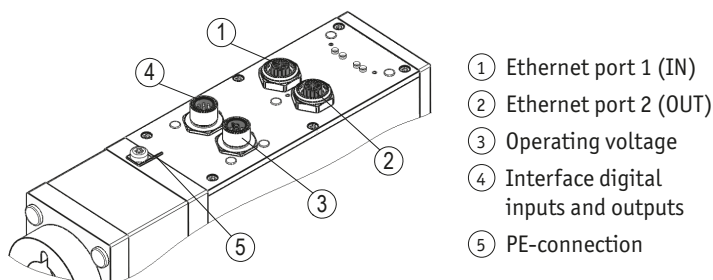
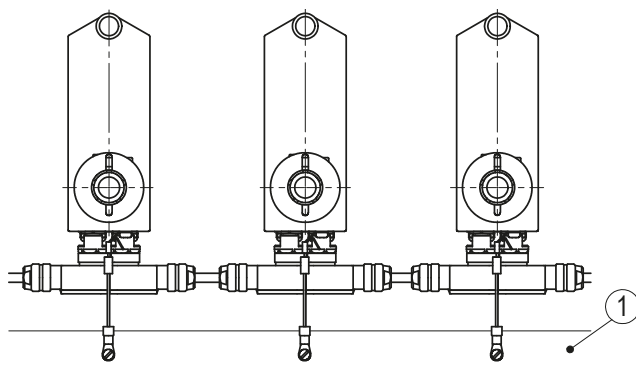

Fig. 5: Connection
Fig. 9: Ground bar
- ① Port 1 (IN): socket 4 pole M12 D coded (see Fig. 5).
- ② Port 2 (OUT): socket 4 pole M12 D coded (see Fig. 5).
- ③ plug pin 4 pole M12 T coded (see Fig. 5).
- ④ plug pin 8 pole M12 A coded (see Fig. 5).
For protection against interference, the screens of the signal lines and the power line must be connected on both sides. Potential differences cause inadmissible currents on the screen. Apply the PE connection ① to the protective conductor potential below the connecting plugs (see Fig. 5). Use 6.3 mm flat connectors with short strands 2.5 ... 4 mm² (not in the scope of delivery). For multiple actuators we recommend connecting the earthing to a ground bar ① (see Fig. 9).